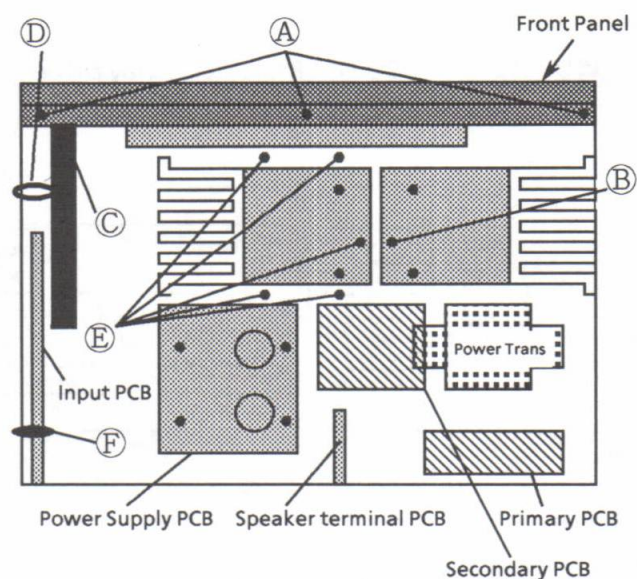

Fig 1. Top View
- 1) Remove the 3 screws ③ fastening top of the Front Panel (Fig.1), and the 3 screws ④ fastening bottom of the Front Panel (Fig.3).
- 1) Remove the screw ⑤ (Fig.1) and remove the 2 screws fastening left side of the Heatsink.
- 1) Remove the 5 screws ⑥ (Fig.1).
- 2) Install in the Select Switch and remove a plastic rod ③ (Fig.1).
- 5) Cut the Tie Band ④ (Fig.1).
- 7) The point of the rod is crushed and remove the plastic rod ⑥ from the Input PCB (Fig.1).